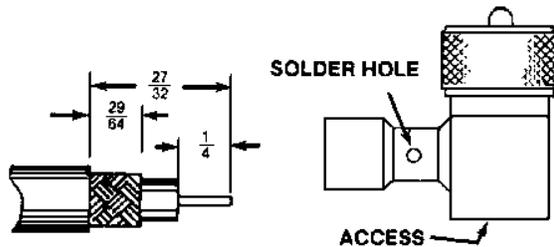

Figure 4 - UHF Adaptor
1. Cut end of cable even and trim dielectric, shield, and vinyl jacket to dimensions shown below in Figure 4.